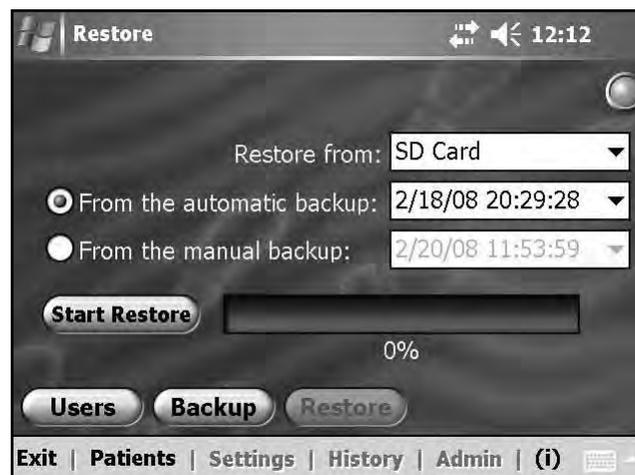

Figure 9-24: Admin menu, Restore window.
4. Press **Admin** and then **Restore**. The Restore window will open. See Figure 9-24.